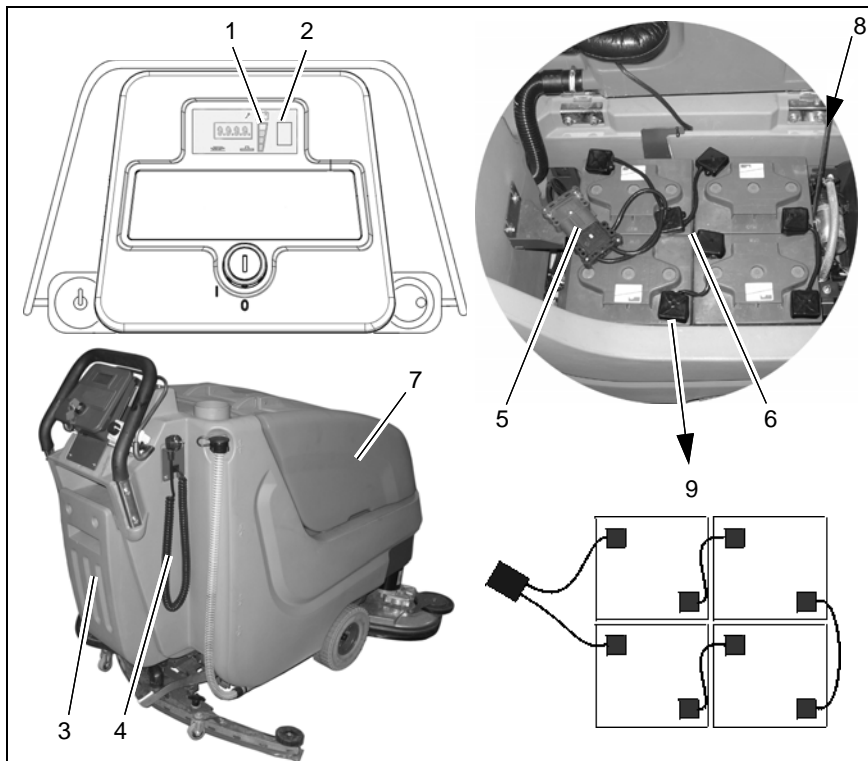

Abb.7
Use the integrated battery charger (Abb. 7/3) to charge batteries. Proceed to connection of the charger by means of the mains cable (Abb. 7/4) with safety plug. Charging batteries is recommended if at least one bar of the LDS display has extinguished after operation of the machine. On this behalf you are requested to observe the operating instructions of the charger 88-60-2723 as well as the operating instructions of the battery manufacturer. In case it is intended to change the type of battery the charger has to be adjusted only by Powerboss contract workshops.
3. Open empty recovery tank (Abb. 7/7) and secure by support (Abb. 7/8).
4. Disconnect battery connector (Abb. 7/5).
2. Open empty recovery tank (Abb. 7/7) and secure by support (Abb. 7/8).
4. Connect battery poles and enclosed connecting cables according to wiring diagram (Abb. 7/9). Provide for tight fitting and grease poles.